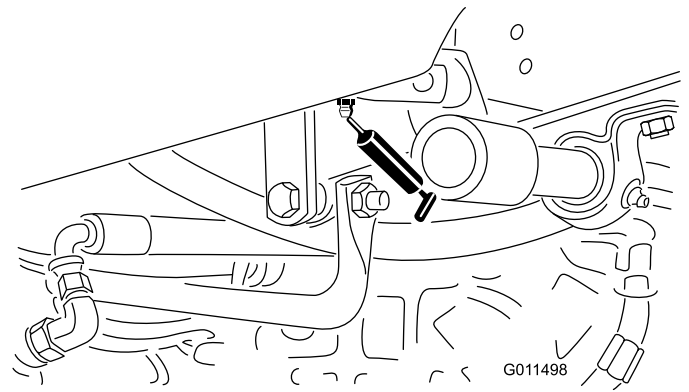

Figure 37
- Traction pedal pivot bushing (1) (Figure 37)